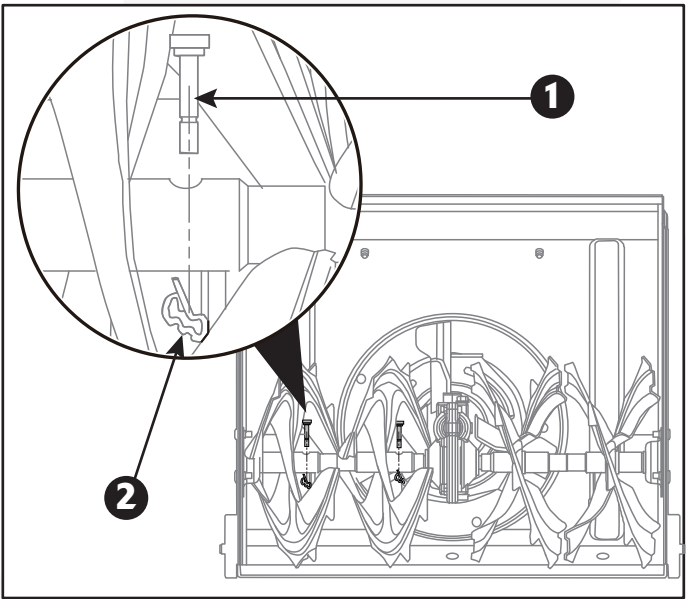

Fig. 18B
- The augers are secured to the auger shaft with shear pins and cotter pins. (Fig. 18B)